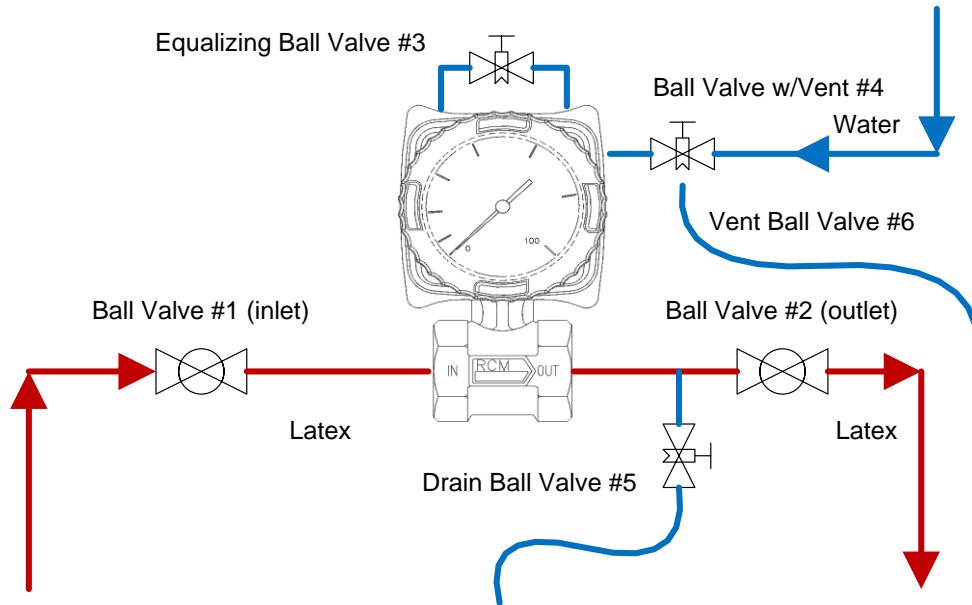

Figure 1
**Note: Place ball valves (not included) before and after the flow meter to isolate the flow meter during the flushing cycle also add a drain line refer to figure 1 for recommended piping configuration.**